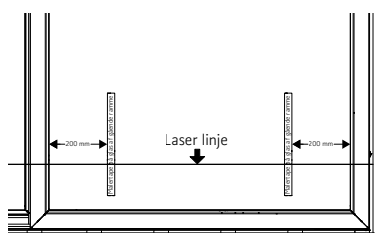

Figure 8: Laser position 0
13. Set up a laser outside, projecting across the full width of the frame – approximately 100 mm up on the glass (figure 8).